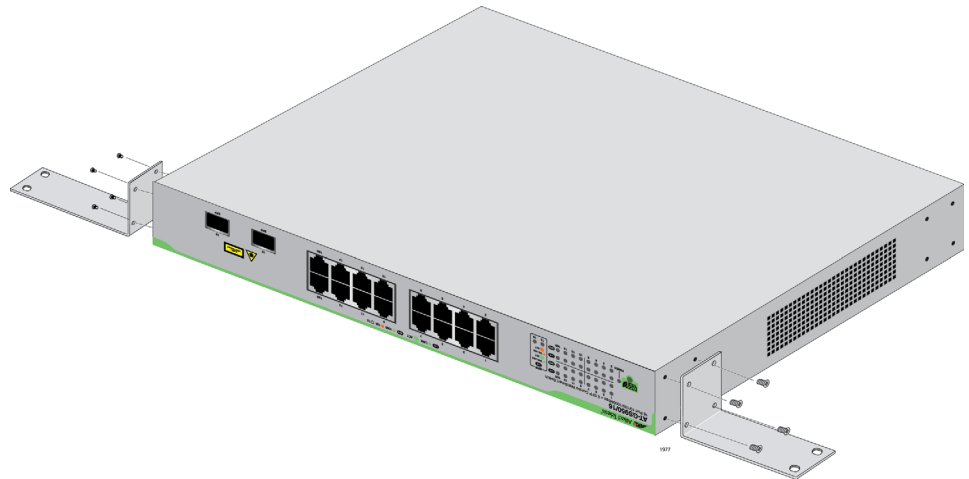

Figure 9. Attaching the Brackets to Install the Switch on a Wall
2. Attach the two rack mount brackets to the sides of the switch using the eight bracket screws that come with the unit. There are four possible positions in which the brackets may be installed. See Figure 9 on page 35.
3. Orient the brackets against the sides of the switch as shown in Figure 9, and secure them to the unit with the eight brackets screws included with the switch.